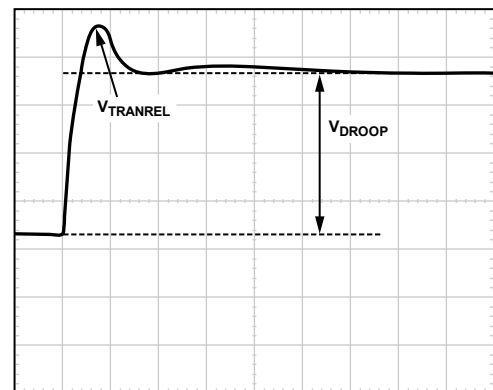

Figure 43. Transient Setting Waveform, Load Release
- For load release (see Figure 43), if $V_{TRANREL}$ is larger than the value specified by IMVP-6+, a greater percentage of output capacitance is needed. Either increase the capacitance directly or decrease the inductor values. (If inductors are changed, however, it will be necessary to redesign the circuit using the information from the spreadsheet and to repeat all tuning guide procedures).